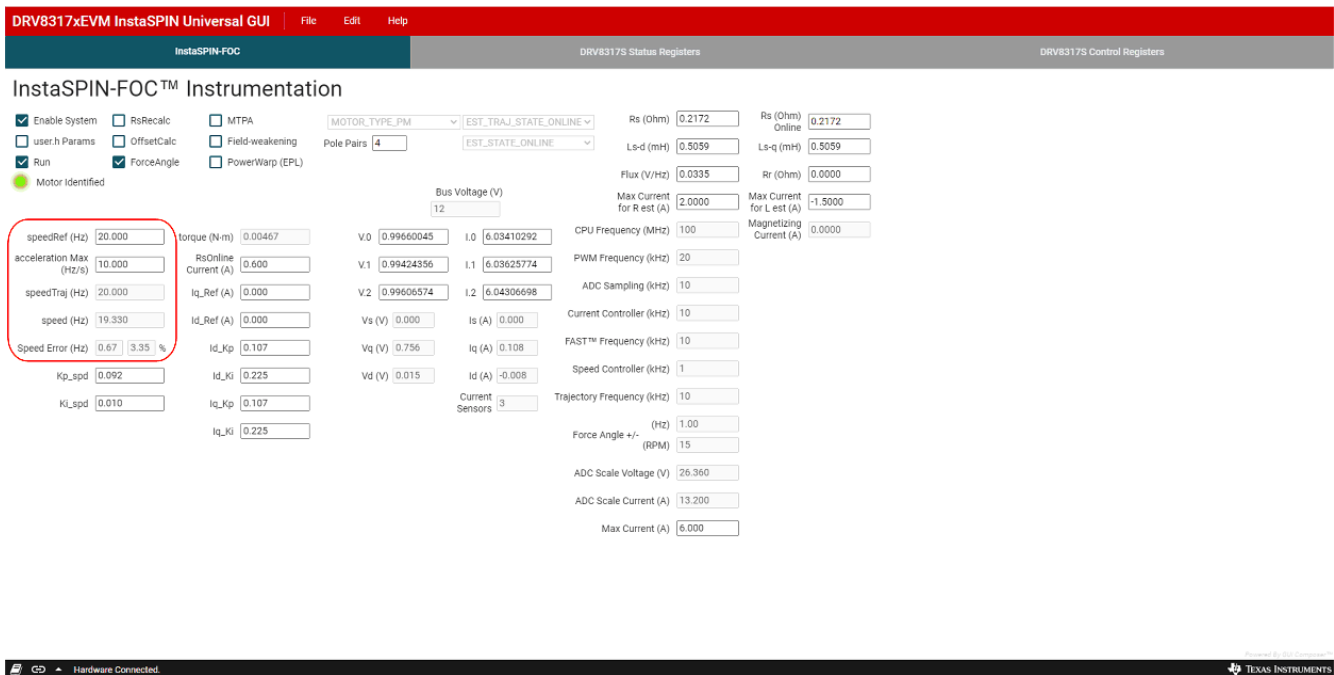

Figure 6-4. Sensorless-FOC commutation using the DRV8317HEVM InstaSPIN GUI
- To spin the motor with sensorless FOC, check the “Run” box again. The motor will spin with sinusoidal current at the speedRef (Hz) value in the GUI, which is automatically set to 20.0 Hz. Use the speedRef (Hz) input to change the current speed of the motor as shown in Figure 6-4. The GUI automatically calculates the current reference speed using the variable speed (Hz) and compares it to the trajectory speed variable speedTraj (Hz) to calculate the Speed Error (Hz) as a percentage.